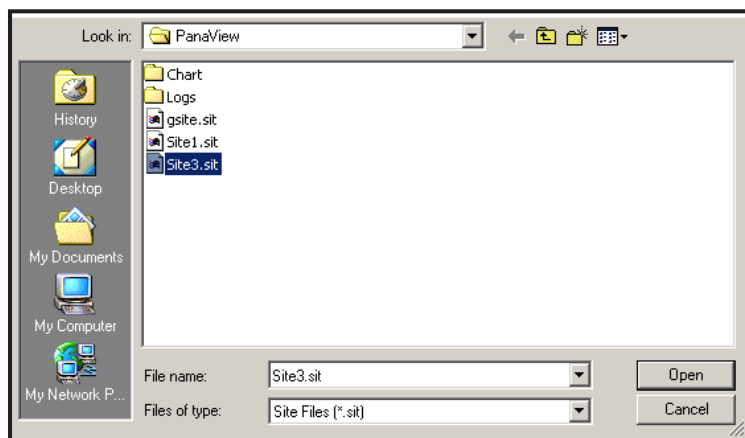

Figure 52: Site File Selection
- Then click on the [Save Site to Meter] button. A screen opens similar to Figure 52.
3. The *Site File Selection* window (Figure 52 on page 132) opens. Highlight a site file with the desired settings, and click [Open]. The site file becomes the *Working* site in the meter with the desired settings.
2. Click [Save Site to PC]. A window opens similar to Figure 52 on page 132.